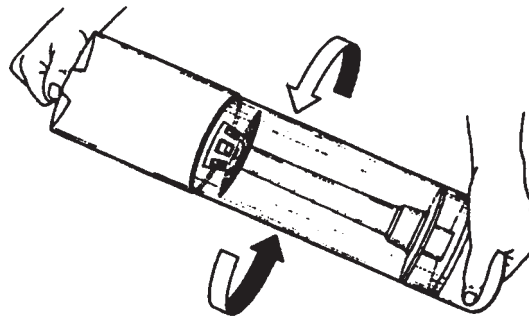

Figure 13c
9. Turn the Carry Handle a quarter turn counter-clockwise to its "unlocked" position and remove Collection Bin Cover. (See Figure 13c.)
2. Insert the Inner Tube back into the Collection Bin. (See Figure 13c.)